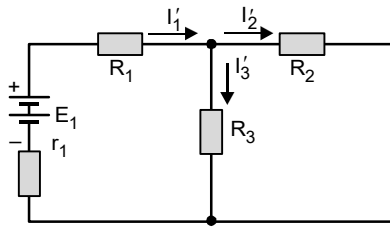

Fig.1.64: Considering source E_1 only
1. First, consider source E_1 only and replace the other source E_2 by its internal resistance. As its internal resistance is not given it is taken as zero (short circuit). Draw the circuit as shown in fig.1.64 and determine currents in various section as I_1' , I_2' and I_3' respectively.